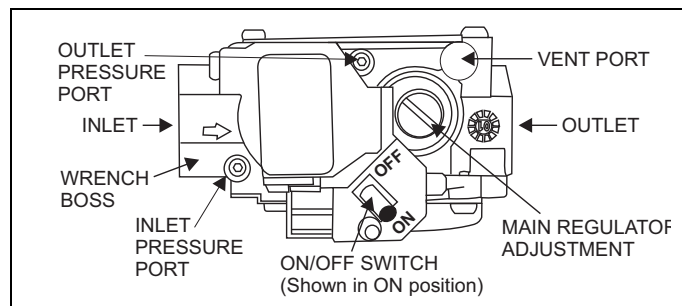

FIGURE 22: Gas Valve
Inlet and manifold gas pressure may be measured by connecting the "U" tube manometer to the gas valve with a piece of tubing. Follow the appropriate section in the instructions below. Refer to Figure 22 for a drawing of the locations of the pressure ports on the gas valve.
1. Refer to Figure 22 for location of pressure regulator adjustment cap and adjustment screws on main gas valve.